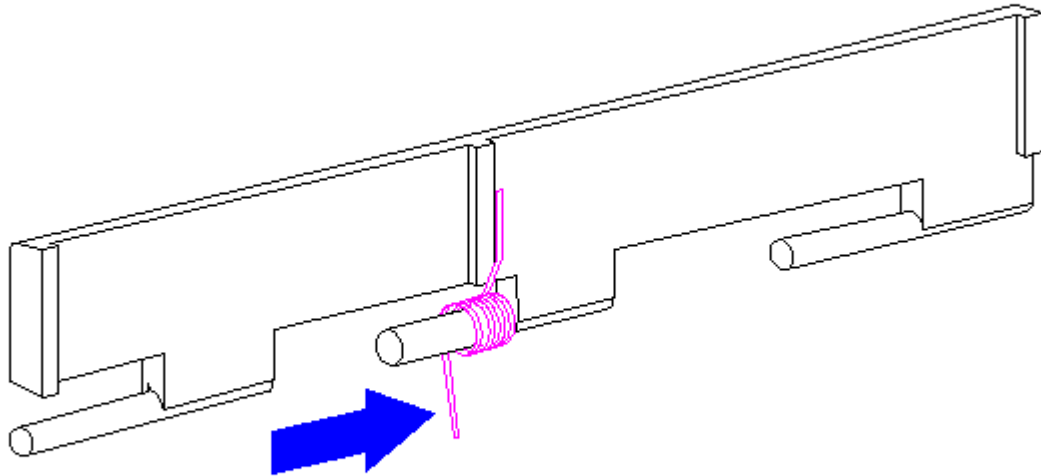

Figure 3-69. Replacing the PC Card Spring (All Models)
1. Install the PC Card spring on the door post, making sure the bent arm of the spring is placed against the rib on the PC Card door (Figure 3-69).